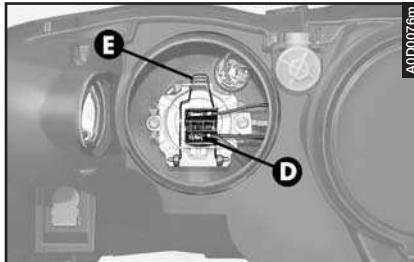

fig. 43
- Disconnect the snap-fitted connector (**D**- **fig. 43**) and release the clip (**E**).